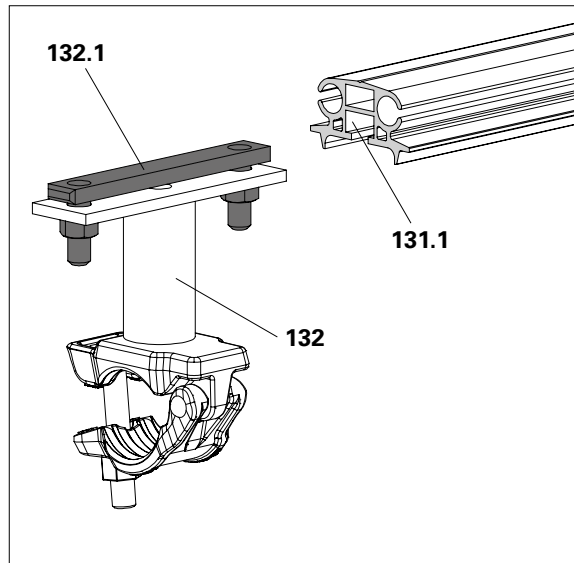

Fig. D3.10
2. Slide the terminal strip (**132.1**) on the Keder Connector URV (**132**) into the T-groove (**131.1**) of the Keder Track URK and bolt it into place. (Fig. D3.10 + D3.10a)